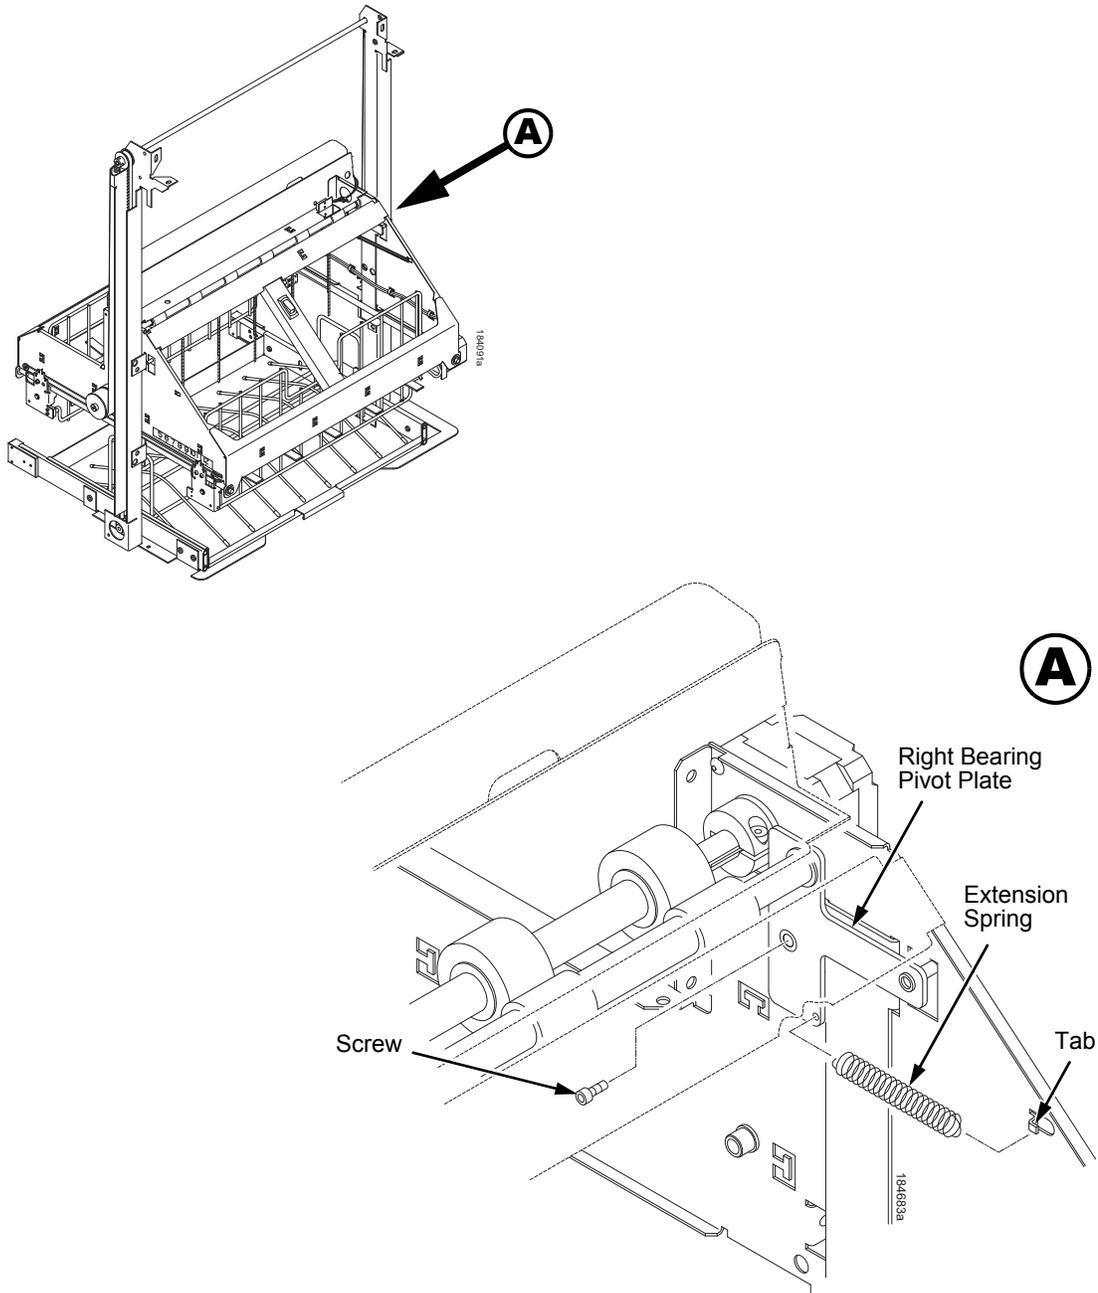

Figure 33. Right Bearing Pivot Plate and Extension Spring
2. Unhook the right bearing pivot plate's extension spring from the tab on the elevator. (Figure 33.)
3. Using an M-2 Allen wrench, remove the screw securing the right bearing pivot plate to the elevator. (Figure 33.)